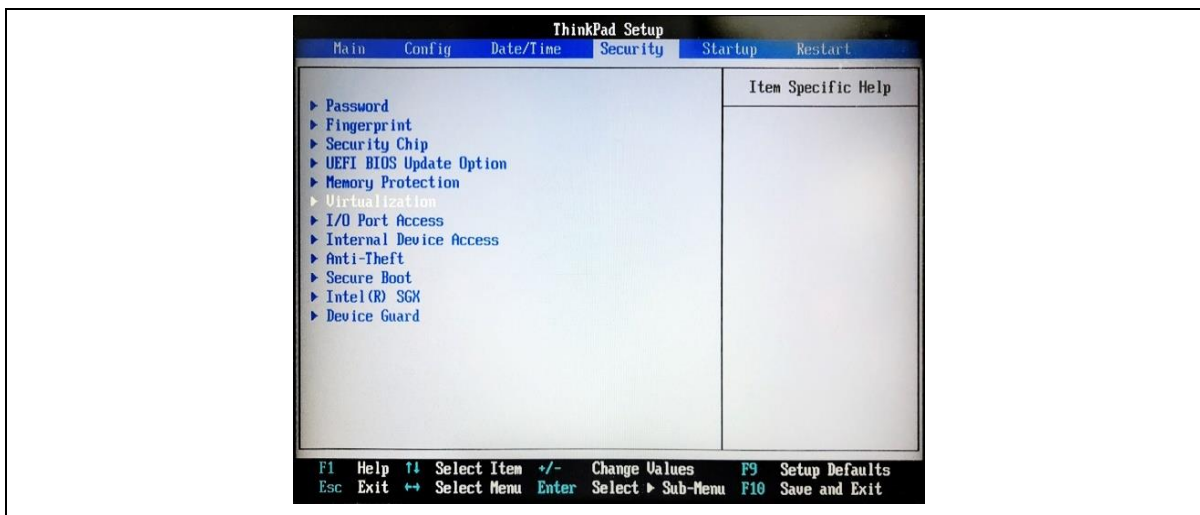

Figure 2-10 BIOS Settings
- Enable Virtualization from BIOS before installing VMware, as shown in Figure 2-10.